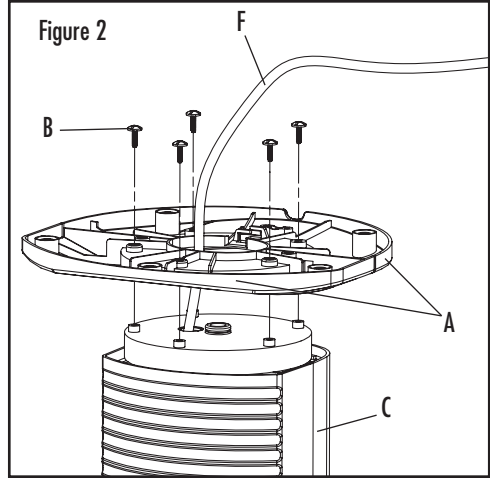

Figure 2
2. Assemble base halves around power cord by sliding posts of one base half into slots of second base half. Refer to Figure 2.